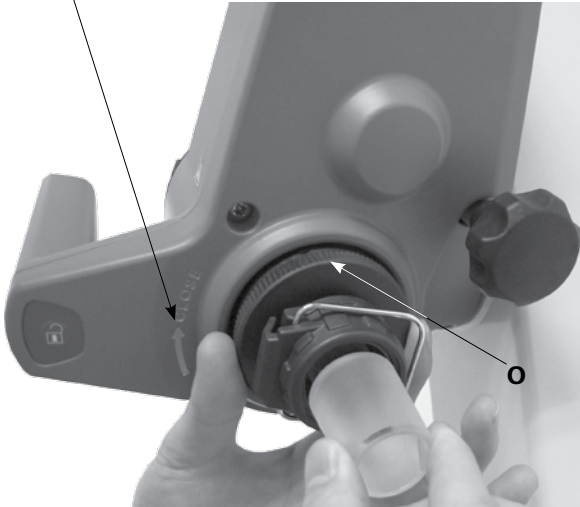

Fig. 14a
- Open the locking device (**O**) on the drive head by turning it 60° counterclockwise. (Fig. 14a)